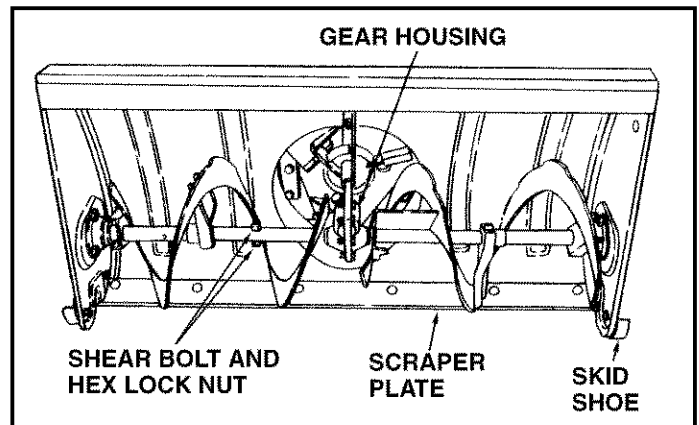

FIGURE 30
- If the augers will not turn, check to see if the shear bolts have sheared. See figure 30. Two replacement shear bolts and hex lock nuts have been provided with the snow thrower. For future use order part number 710-0890A shear bolt and number 43064 hex lock nut.